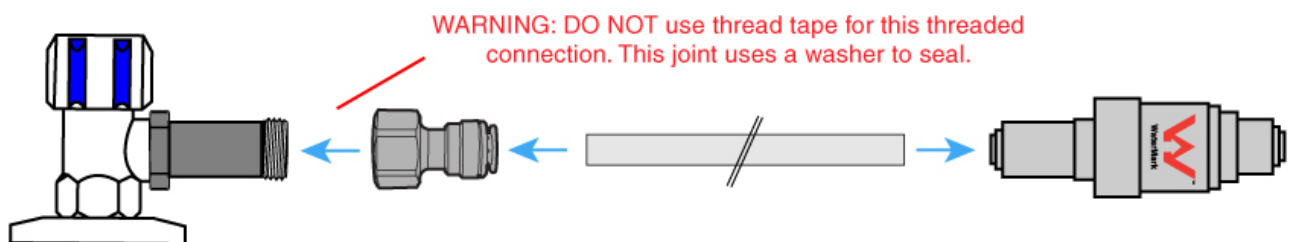

Fig.3 Install 1/2" F to 3/8" Tube fitting to DCV. Install tubing between Fitting and PLV
- b) Connect the supplied 1/2" Female adaptor to the Dual Check Valve, the adaptor uses a washer type seal so no thread tape is required. Measure, cut and install tubing between this point and the PLV as shown in Fig.3.